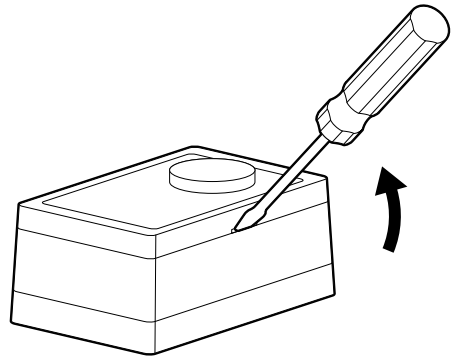

Figure 1
- 2) Remove the Humid•Alert cover by prying with a screwdriver in the notch on the bottom of the case (Figure 1).